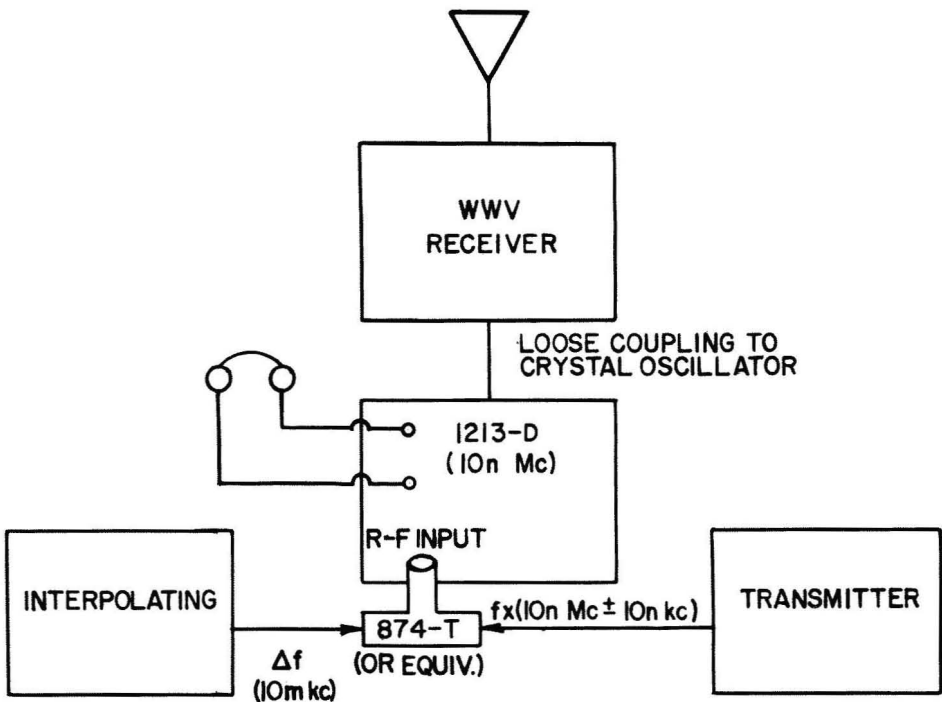

Figure 4. Interpolation Method of Calibration.
**3.7 INTERPOLATION METHOD OF CALIBRATION.** The 10-kc harmonic series generated by the Type 1213-D permits direct calibration at 10-kc intervals up to 10 Mc. However, with an interpolation oscillator connected as shown in Figure 4, it is possible to calibrate at any multiple of 10 kc up to 1000 Mc. Thus, any broadcast transmitter, for instance, can be standardized directly against WWV on any assigned channel up to 1000 Mc. An oscillator with a frequency range of 10 kc to 5 Mc, with an output of about 1 volt, will interpolate between successive harmonics of the 10-Mc series up to 1000 Mc. The Type 1330-A Bridge Oscillator or the Type 1001-A Standard Signal Generator are recommended. Below 500 Mc an oscillator with a frequency range of 10 kc to 500 kc (such as the Type 1210-C Unit R-C Oscillator) will interpolate between successive harmonics of the 1-Mc series.